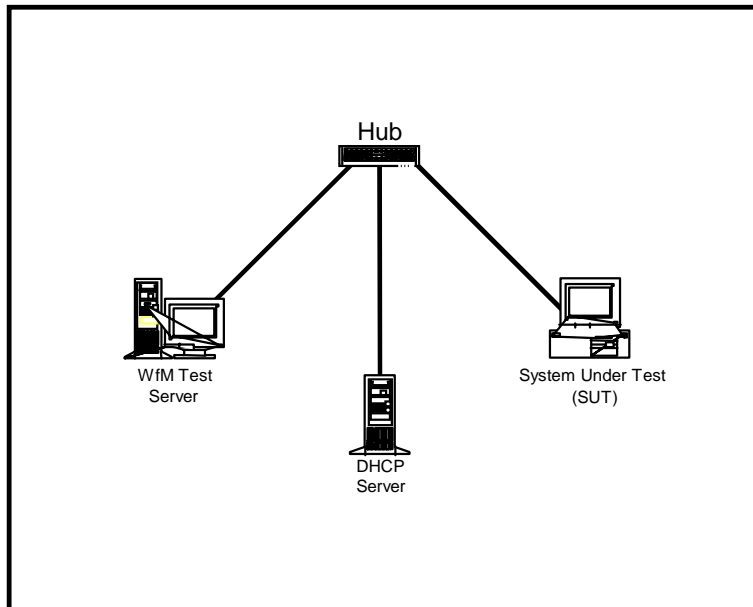

Figure 1. Recommended Network Configuration for Client Test
- A server platform running Windows* NT* Server (version 4.0 or higher) to install the Self-Test Toolkit onto. SNMP Services must be installed with a Community Name of "public". This server is labeled "WfM Test Server" in Figure 1.
- A server platform running Windows NT (server OS version 4.0 or higher) with DHCP services enabled and configured with a user-defined DHCP address scope. This server is labeled "DHCP Server" in Figure 1.